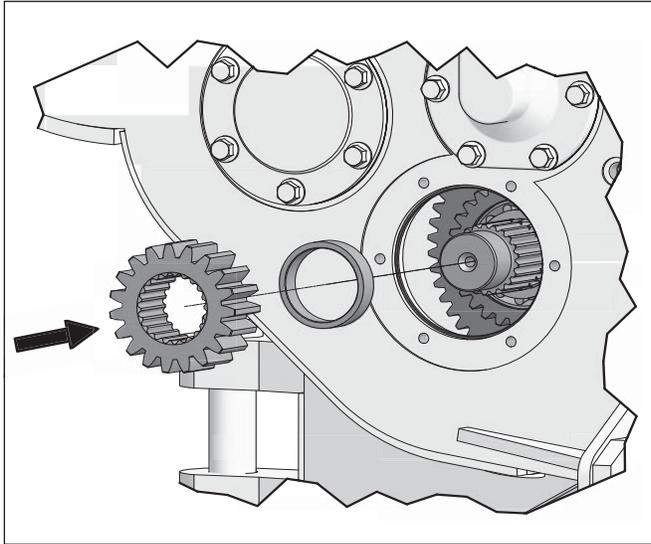

**Figure 4-14 Service Kit Installed (Repair Kit Section)**
3. Place left hand brake gear, long brake shaft spacer and new spacer, item 52, (leave off the cone part of bearing off of the smaller diameter gear side) (See Figure 4-14) into winch. Note the orientation of spacer as shown in DETAIL G. Center up parts.
5. Install cone part of bearing that was left off from the spacer, item 52. Install short brake shaft spacer next.